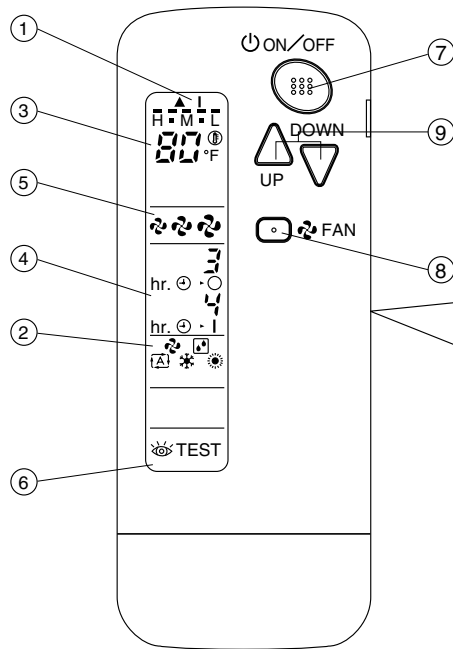

Fig. 1-1
### 2. NAMES AND FUNCTIONS OF THE OPERATING SECTION (Fig. 1-1~3, 2)
- For the sake of explanation, all indications are shown on the display in Fig. 1-1 contrary to actual running situations.